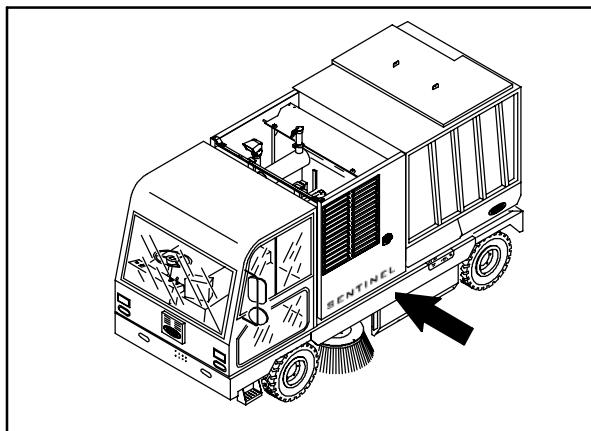

FIG. 25
42. Remove the cover from the left channel. Set the cover and mounting hardware aside. Refer to Fig. 25.